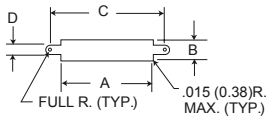
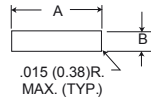
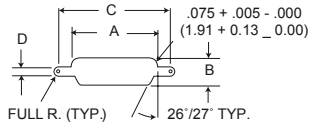

Figure 1
Figure 2
Figure 3
1. Front mounting (figure 1) and rear mounting (figure 2) accommodates #2-56 screws.
3. Edgeboard mounting bracket (figure3) uses #2-56 screws. Dimension .450 ± .002 (11.43 ± 0.05) locates the MD receptacle flush with the end of the board.
2. Front mounting is preferred. However, when rear mounting is necessary, use figure 3 for dimensions.
5. Front mounting (Figure 1) and rear mounting (Figure 3) accommodate #2-56 screws.